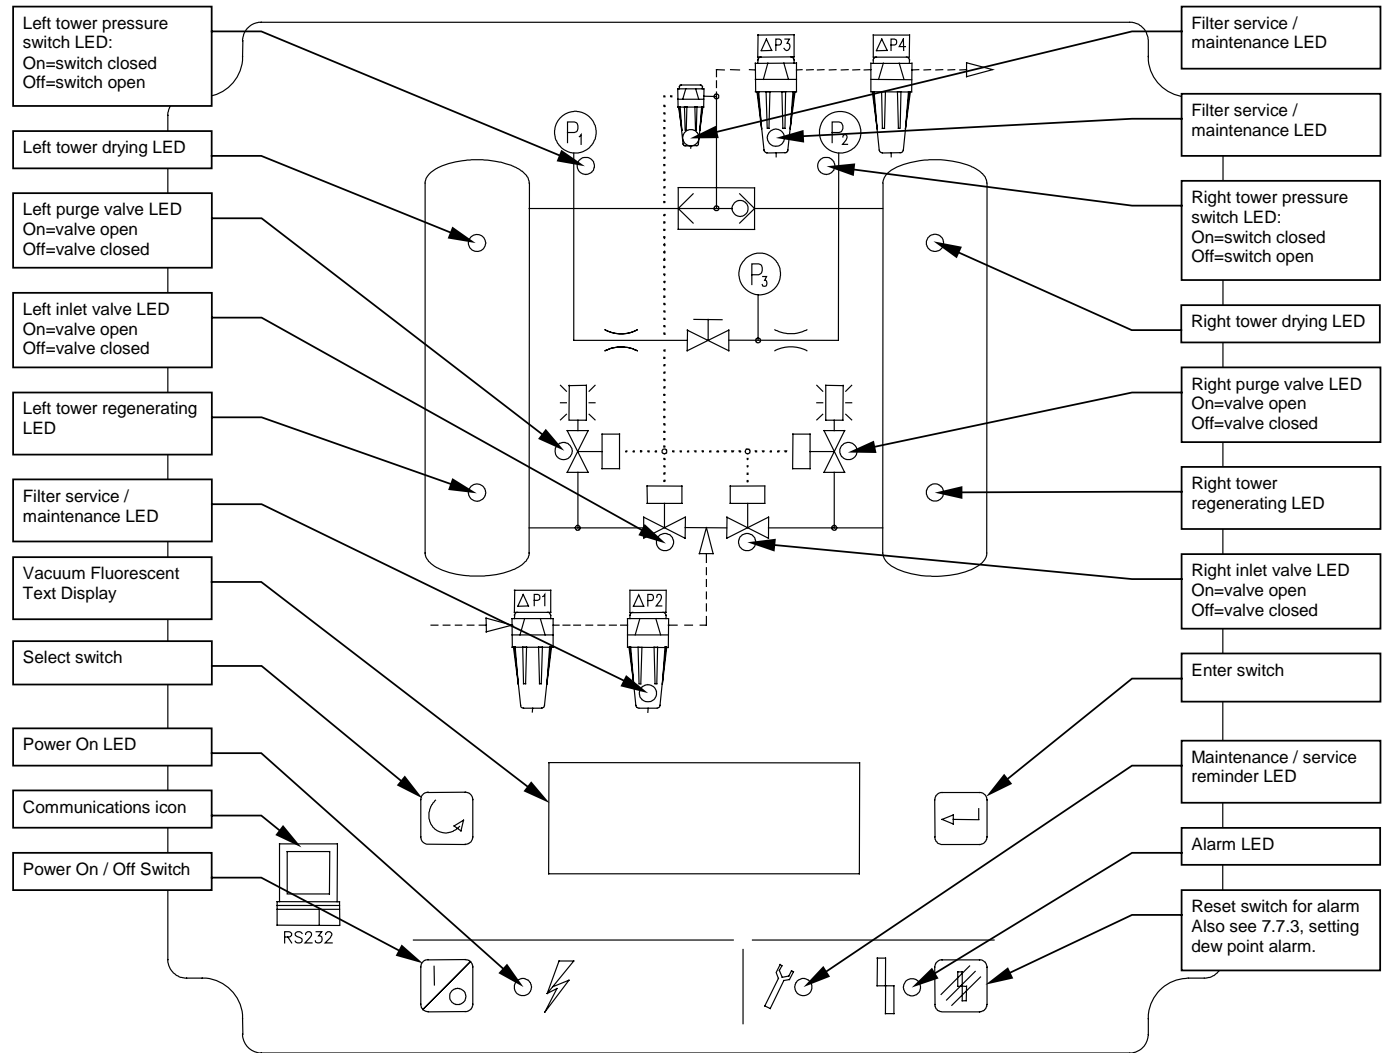

Figure 7-1
- Figure 7-1, Front Panel Overlay – Level 2 Controller
Refer to *Figure 7-1, Front Panel Overlay – Level 2 Controller* for information regarding the location and function of the LEDs, switches, and text display.
The front panel contains four momentary-contact push button switches. Refer to *Figure 7-1, Front panel Overlay – Level 2 Controller* for the appropriate icon associated with each switch. Pushing on the overlay icon actuates the switch. Switching can be affected remotely by wiring external pushbuttons to the *RPB (J2)* terminals located on the rear of the display board. Refer to Section 7.2.4.